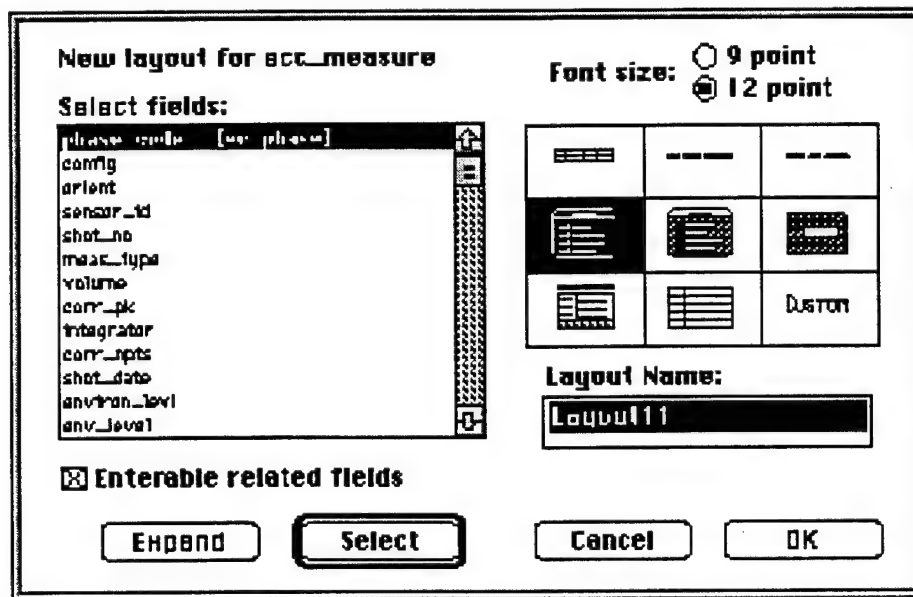

Figure 3.20: Selection of fields to include in ecc_measure dialog
4. Another window, similar to the one shown in Figure 3.20 will be displayed. This dialog box allows you to create a new layout, and provides a list of the fields and files in the database. Any field from any file can be displayed in a layout. Different ways of viewing the data can be selected from the right side of the display, and the font size can also be changed. The top row of layouts is generally considered appropriate for output (display purposes, as opposed to input, where you enter new data).